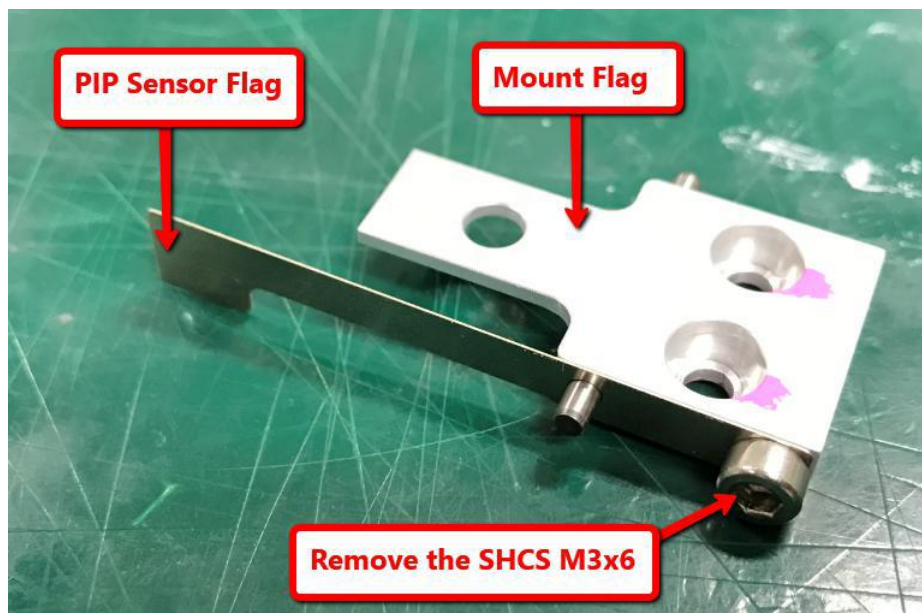

Figure 2 PIP Sensor Flag Removal
2. Remove SHCS M3x6 from the side of Mount Flag as Figure 2